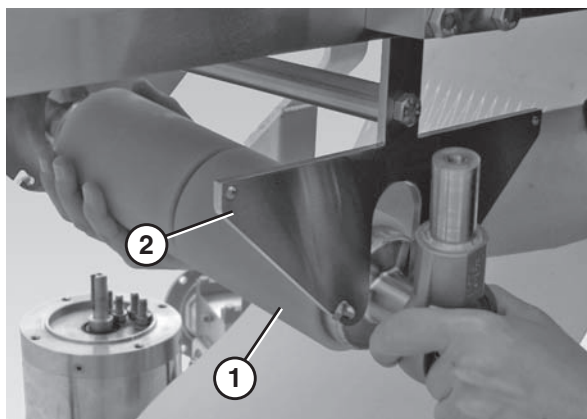

Figure 69
15. Lower the end of the drive shaft spindle (**Figure 69, item 1**) until it is clear of the side plate (**Figure 69, item 2**) and remove it.